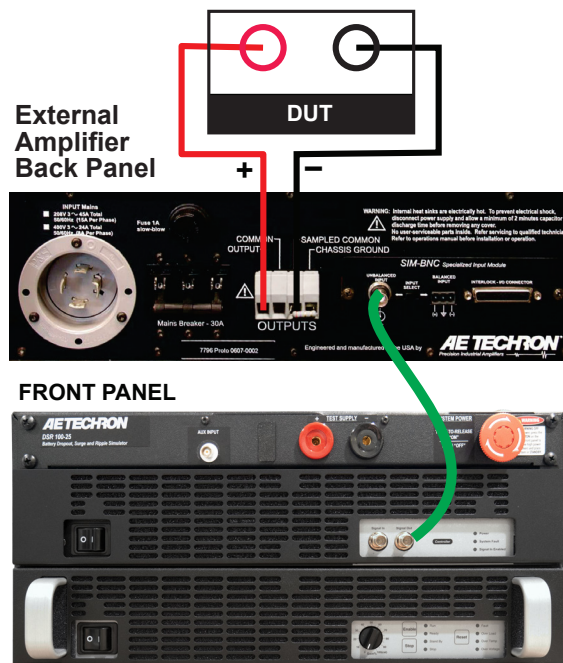

Figure 4.6 – Connecting an External Amplifier
2. **Connect External Amplifier:** Use a BNC cable to connect from the BNC connector labeled Signal Out located on the DSR 100-25 3110A waveform generator’s front panel to the signal input connector on the external amplifier. See **Figure 4.6**.
3. **Connect the Outputs:** Using the supplied mating output connectors and wiring appropriate for your application, connect from the external amplifier’s positive and negative output connectors to the device under test. See **Figure 4.6**.